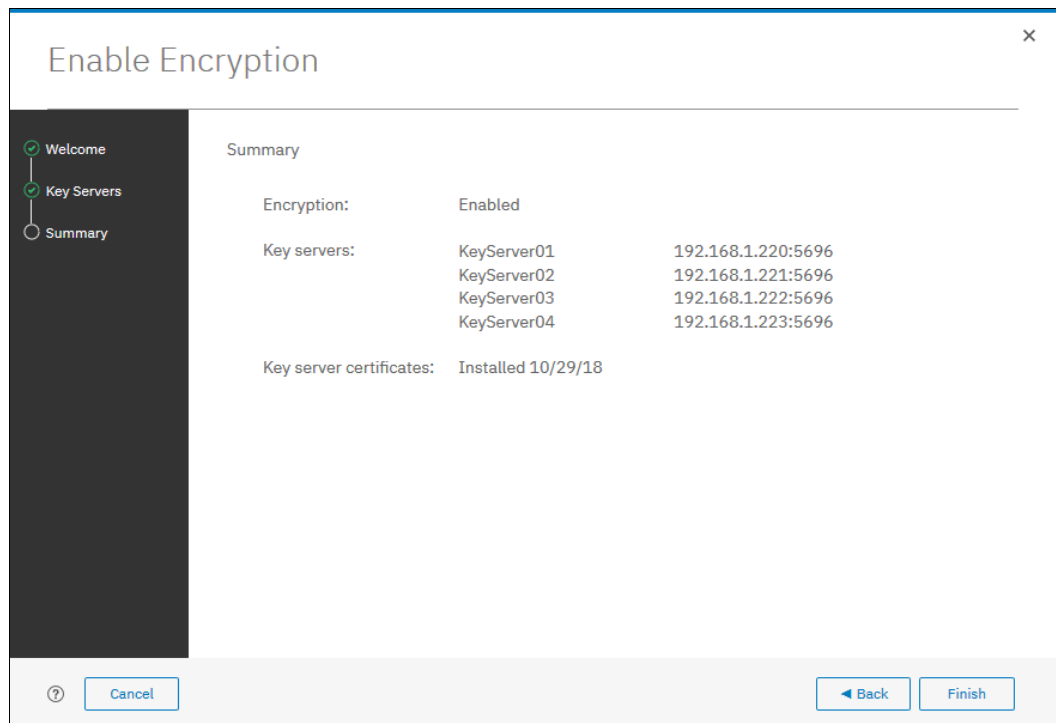

Figure 13-47 Finish enabling encryption using SafeNet KeySecure key servers
- The key server configuration is shown in the Summary tab, as shown in Figure 13-47. Click **Finish** to create the key server object and finalize the encryption enablement.